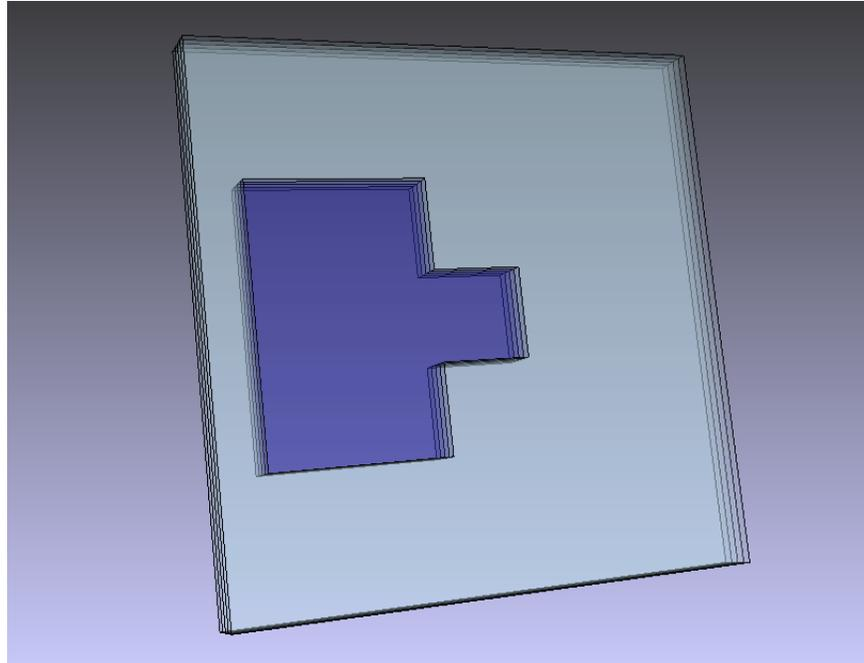

Figure 4: Layer Stackup View before optimization
15. To view the layers you just created, right-click on **Views** in the **Model Hierarchy** and select **New Layer Stackup**. The result should look something like Figure 4.